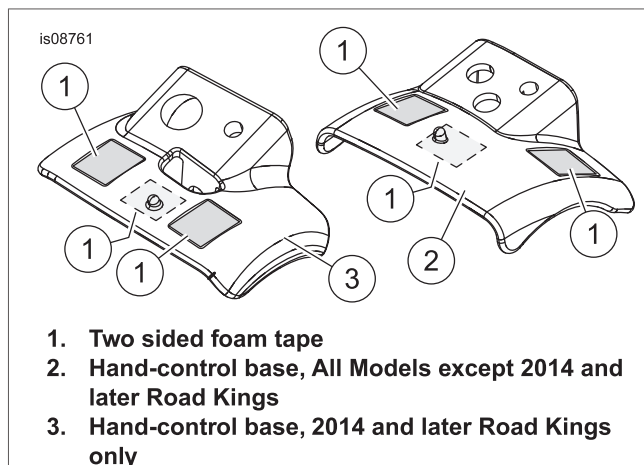

Figure 1. Hand-Control Base and Tape
2. See Figure 1. Clean with a mixture of 50-70 percent isopropyl alcohol and 30-50 percent distilled water.